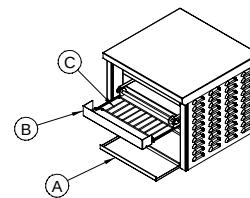

Figure 1
- I. Check Contents - refer to Figure 1, account for the following parts: